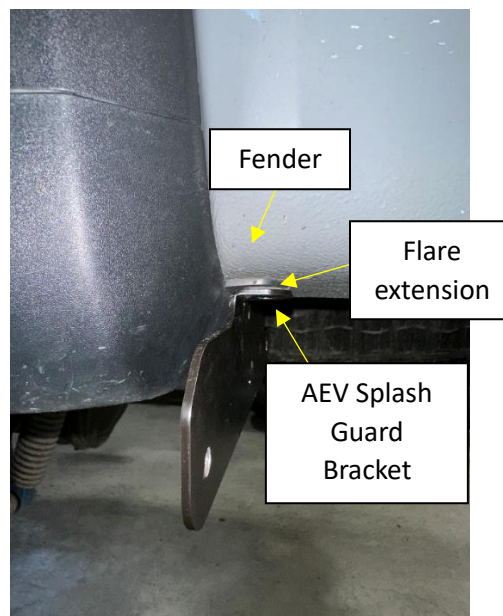

Figure 6
- a. This flare extension will sandwich between your AEV splash guard bracket and the fender (Figure 6).